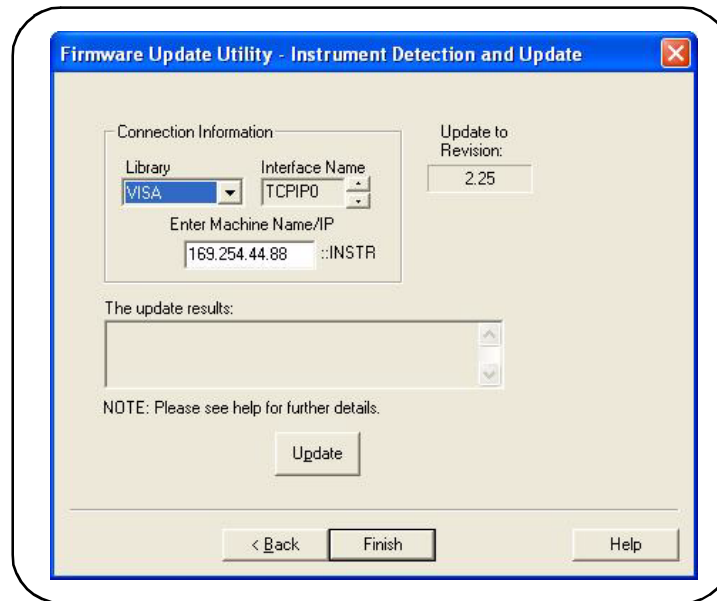

Figure 3-9. Specifying the Instrument Address.
3. Select the I/O interface between the PC and the instrument and then select 'Next'. Enter the machine name/IP address or GPIB address as prompted (Figure 3-9). Select 'Update' to start the update process.